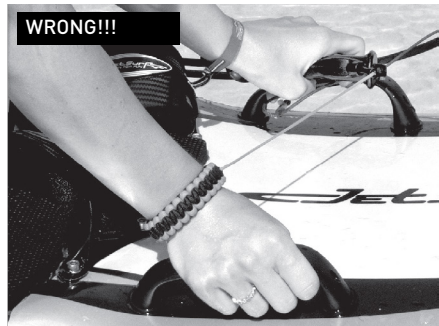

FIGURE 3
4) When the charger is connected, the LED light on the charger lights up - FIGURE 3. If the LED light is red, leave the charger plugged in until the LED light turns green. If the LED light is red, the battery is not 100% charged. When the LED light is green, the battery is 100% charged.
3) Undo the velcro on the tank – FIGURE 3.
Regularly inject preservative spray to the lubrication holes - FIGURE 1 and 2. Apply preservative spray also to the muffler and alternator bearing - FIGURE 3 and 4 on the next page.
The rider IS STANDING next to the board, NOT LYING on the board. When the rider is in the correct position for starting, with his/her free hand in which he/she does not have control handle he/she can insert the engine shut-off key in the engine shut-off switch (on condition that the ICU has been activated) – FIGURE 3.
3) If no more water is coming out of the engine head, place and keep the key on the indicator - FIGURE 3. When the shut-off key is placed, the starter starts turning without ignition on the spark plug. Continue turning the engine until only fuel is splashing out of the spark plug opening (fuel and water form a white emulsion).